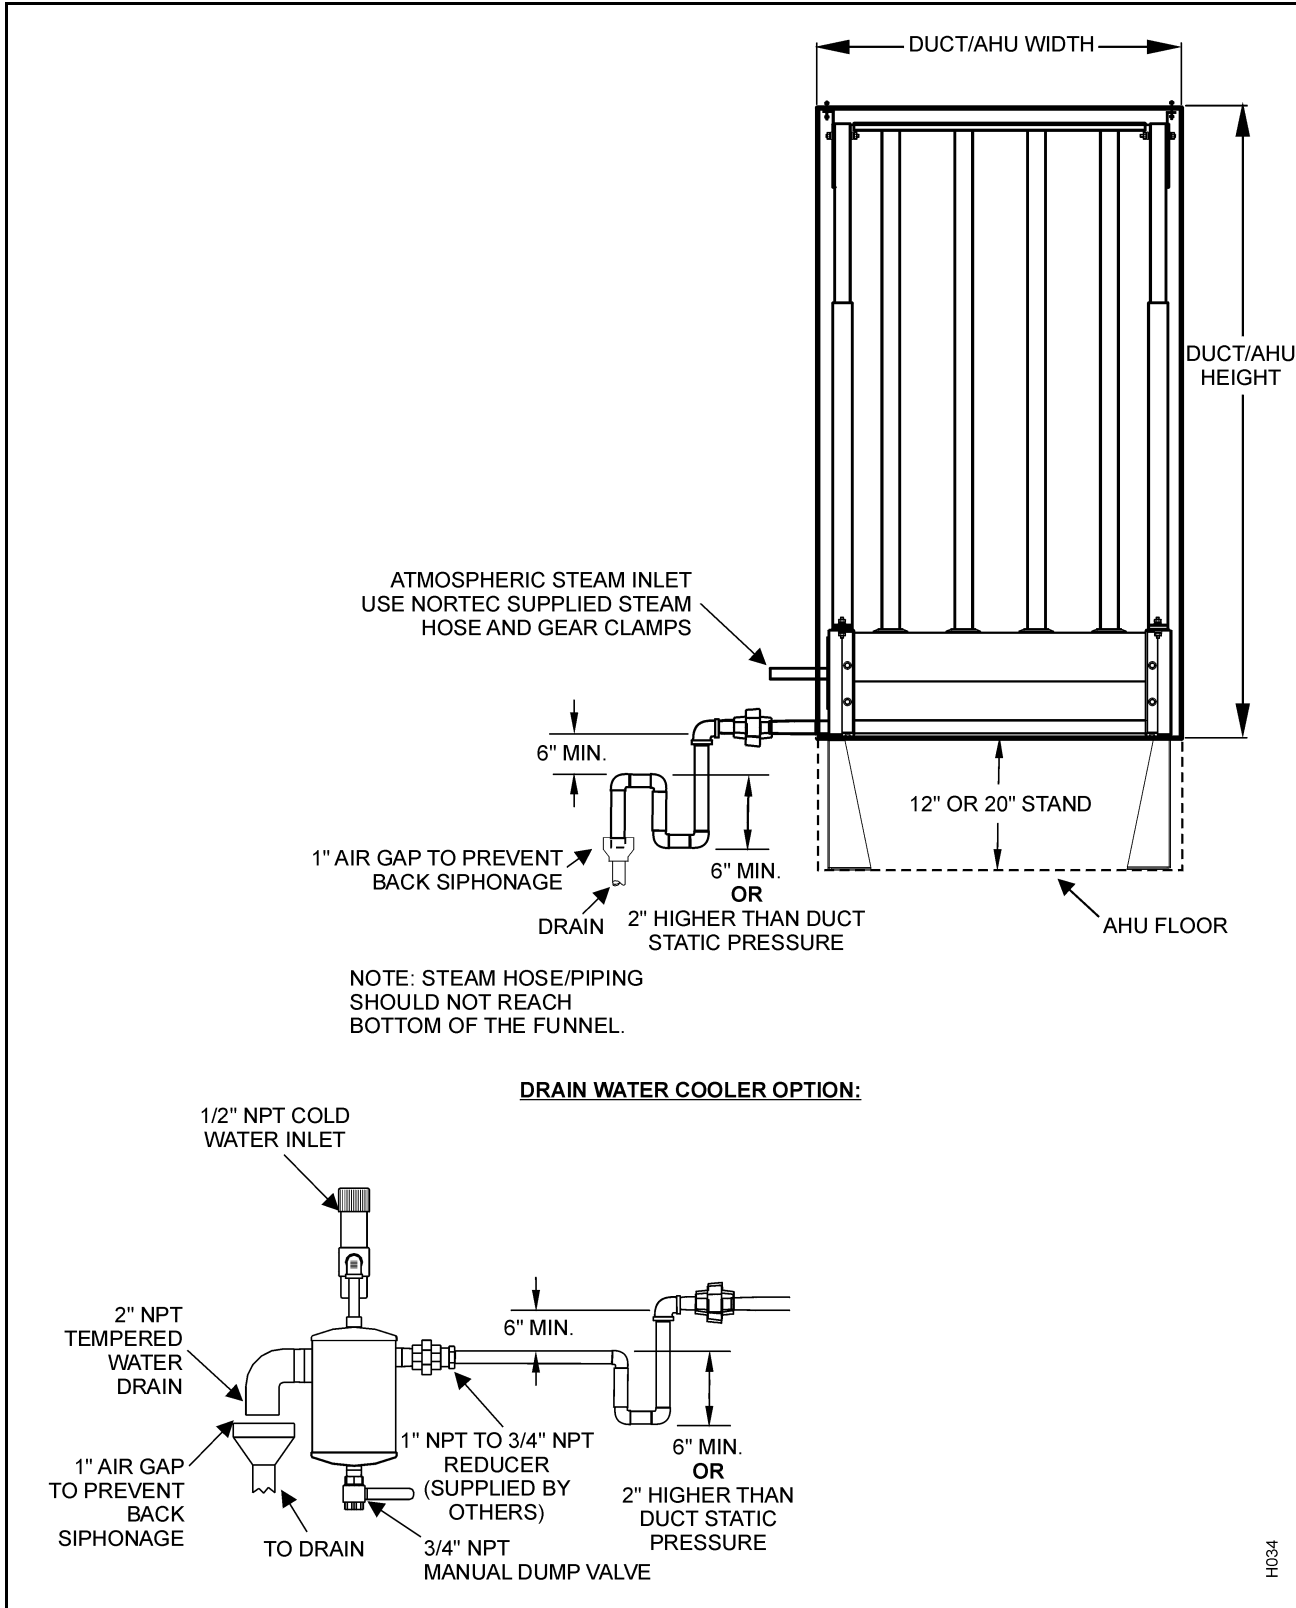

Figure 26. Typical SAM-e Installation for Atmospheric Steam Applications
- (b) For a typical SAM-e installation, see Figure 26.
- (1) For the mini SAM-e installation, refer to Tables 18, 19, 20 and 21 for headers, tubes and inlet configuration.